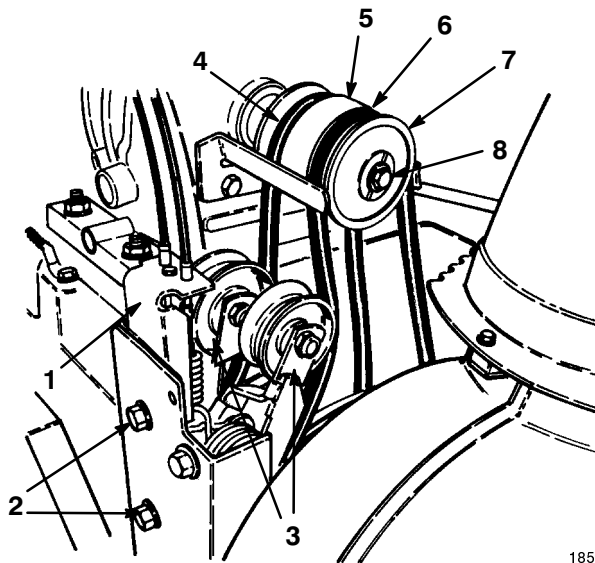

Figure 30
If the auger/impeller drive belt or the traction drive belt (Fig. 30) becomes worn, oil-soaked, or otherwise damaged, replace the belt.
4. Remove the two flange head cap screws that secure the idler pulley assembly to the engine frame and remove idler pulley assembly (Fig. 30).
5. Remove the cap screw and the lock washer that secure the half sheave to the front of the pulley assembly (Fig. 30).
6. Slide the half sheave and auger/impeller belt off the crankshaft and remove the belt from the impeller pulley (Fig. 30).
7. If you need to replace the traction drive belt, slide the middle pulley section and the belt off the crankshaft, and remove the belt from the pulley (Fig. 30).
9. If you replace the traction drive belt, install it around the traction drive and the middle pulley section, and slide the middle pulley section onto the crankshaft (Fig. 30).
10. Install the belt on the idler pulley (Fig. 30).
11. Install the auger/impeller drive belt around the half sheave, and slide the half sheave onto the crankshaft (Fig. 30).
13. Install the idler pulley assembly on the engine frame and secure it with the two flange head cap screws (Fig. 30).